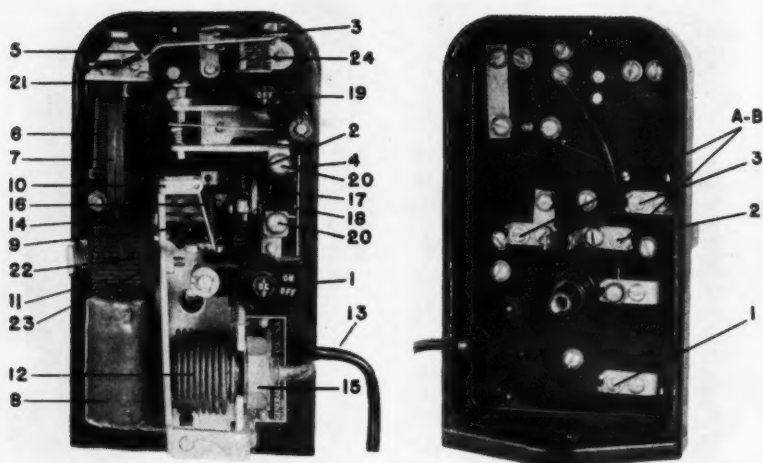

FIG. 8—FRONT AND BACK VIEWS OF 1050-C CONTROL USED ON DR-2 UNIT
CR1050-C Control—Fig. 8. By manipulation of the temperature adjusting drum (11) the customer may secure a temperature variation of approximately $2\frac{1}{2}$ degrees plus or minus from the normal point. Turning the drum upward will lower the temperature, while turning it downward will raise the temperature.